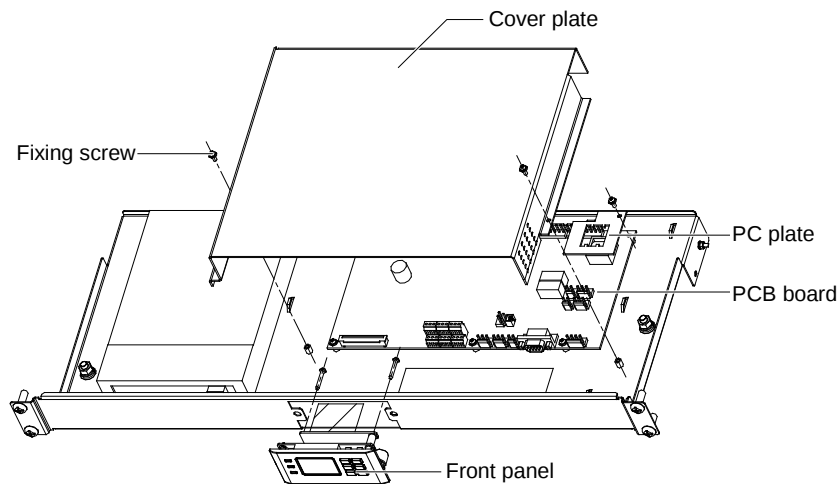

Figure 5-3 Removing cover plate
1. Remove the three fixing screws of the cover plate, as shown in Figure 5-3.